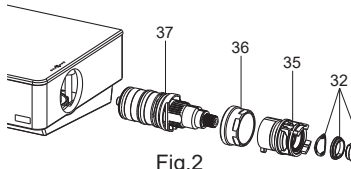

Fig.2
取下齿套组件(32)，接着将螺母(36)和塑料套(35)卸下。小心地卸下温控阀(37)。用热醋进行清洗(Fig.2)。
Remove the adapter spline kit(32), unscrew the nut(36) and stopper(35). Remove the cartridge (37) cautiously. Clean the cartridge by soaking it in warm vinegar(Fig.2).